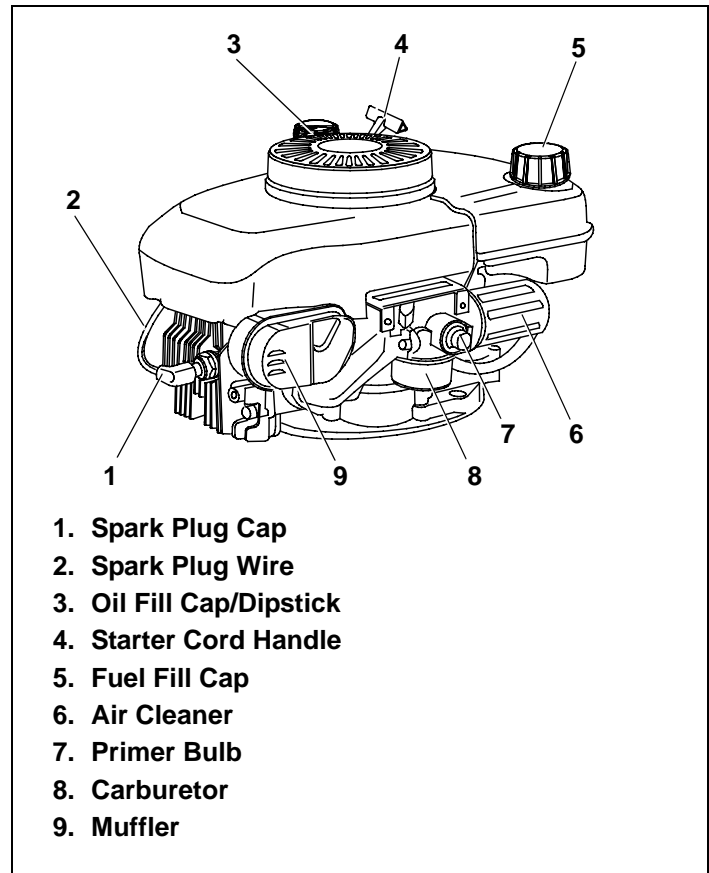

Figure 7. Engine With Oil Fill Cap/Dipstick
2. Unscrew oil fill cap/dipstick from oil filler tube and wipe dipstick clean. See Figures 7 and 8.
3. Clean area around fuel fill cap and remove fuel fill cap. See Figure 7 on page 5. Afterward, continue reading instructions below.